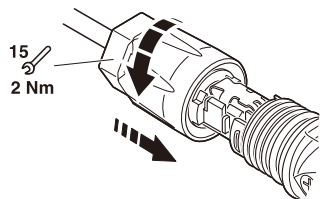

Figure 4.9
Step 4. Push the insert into the sleeve and tighten the cable gland with 2N.m torque. (see figure 4.9)